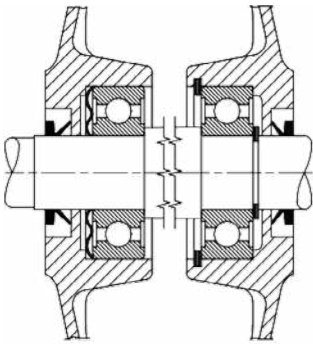

Figure 2
- 160...280 motors are manufactured in standard production with ZZ closed bearings with the bearing thrust spring in front as shown in Figure 2 and with rear locking according to Tables 2 and 3.
- Motors with frame sizes 63...280, for shaft-up mounting positions (V6-V3-V19-V36-V69-V9), are manufactured in accordance with Table 1, Table 2 and Table 3, with ZZ sealed bearings, arranged as shown in Figure 2, with the front bearing floating (non-locating bearing), with the bearing preloading spring located at the front, and the rear bearing fixed (locating bearing).